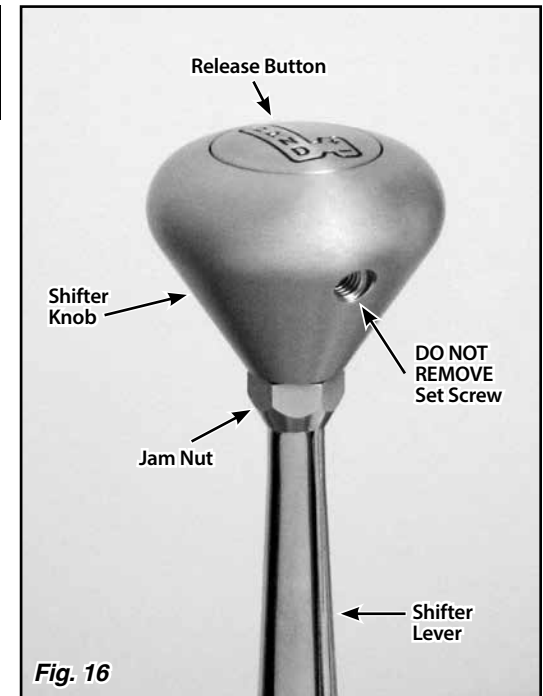

Fig. 16
Step 2: Loosen the jam nut below the shifter knob. **DO NOT** loosen or remove the set screw that is in the knob. Fig. 16